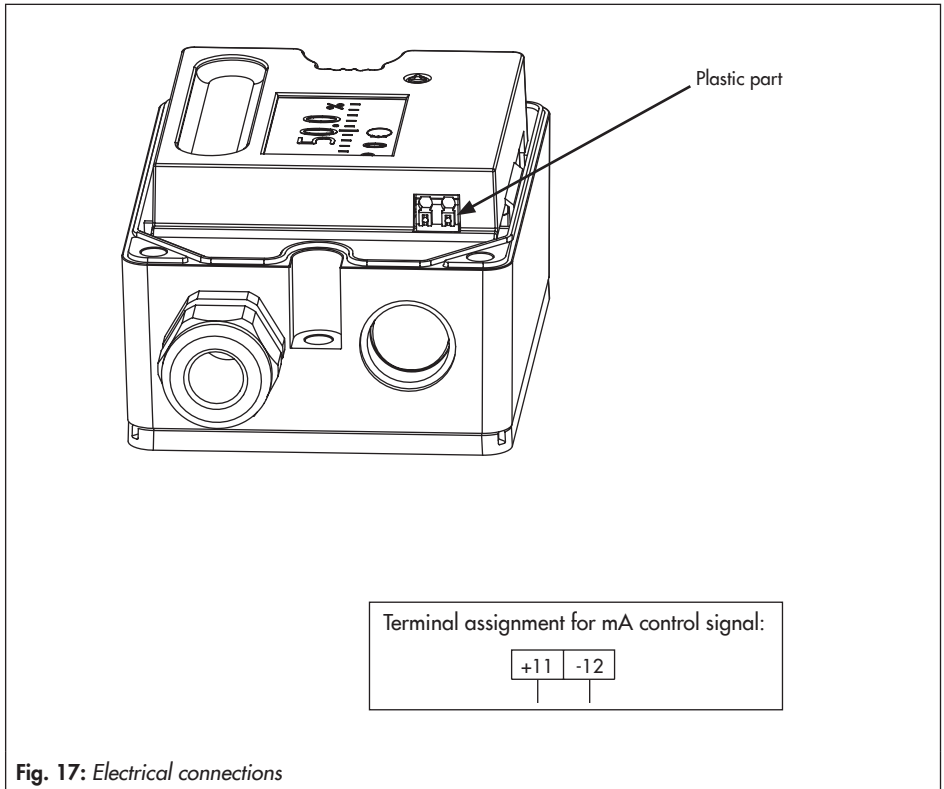

Fig. 17: Electrical connections
- To unlock the cage clamp terminals: place a slotted screwdriver on the plastic part (Fig. 17) and lightly push it into the terminal block.
- Connect the electrical power (mA signal) as shown in Fig. 17.